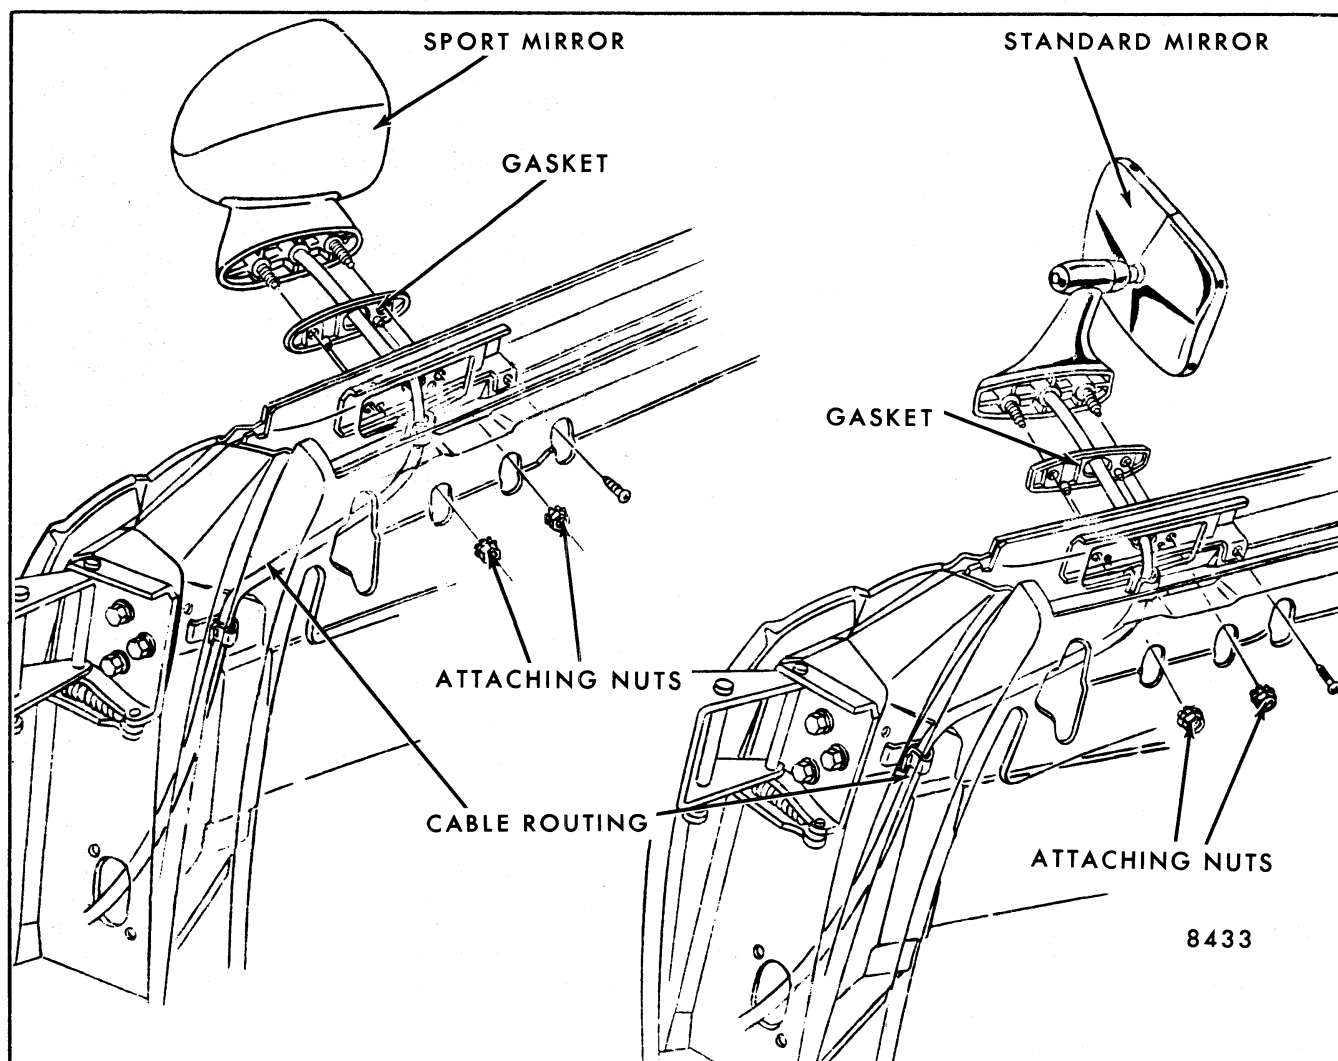

Fig. 5-97-Door Outside Mirror - Typical All "A, B, C, E, F, H and X" Styles - Right Side
3. Remove mirror base to door outer panel stud nuts (Fig. 5-97) and remove mirror and cable assembly from door.